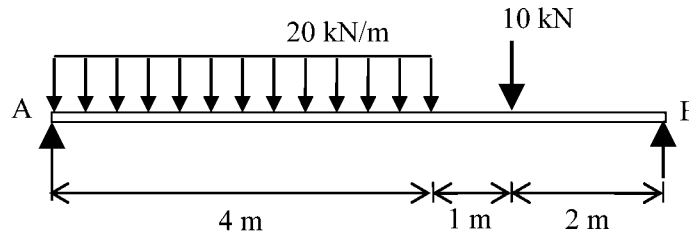

Figure Q5
5 The beam AB is simply supported at A and B and has a span of 7 m. It is loaded with a uniformly distributed load of 20 kN/m over a 4 m length and a concentrated load of 10-kN as shown in Figure Q5.
- b) Draw the shear force diagram and the bending moment diagram for the loaded beam shown in Figure Q5 indicating all values at key points. (Show relevant calculations) (14 marks)